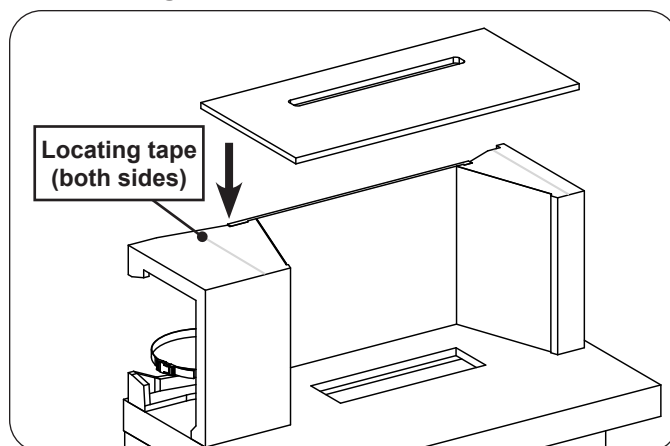

Fig. 21-2 Place top panel
6. Place the top panel as shown in Fig. 21-2 (no hardware required). It should rest on top of the firebox pieces below; use the tape found on the firebox pieces to properly locate.